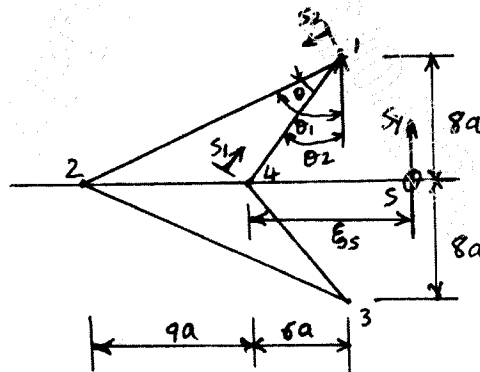

Fig Q4(a)
- 4 a. A thin walled closed section beam has single symmetry as shown in Fig Q4(a). Each wall is flat and has the same thickness  $t$  and shear modulus  $G$ . Calculate the distance of the shear center from point '4'.